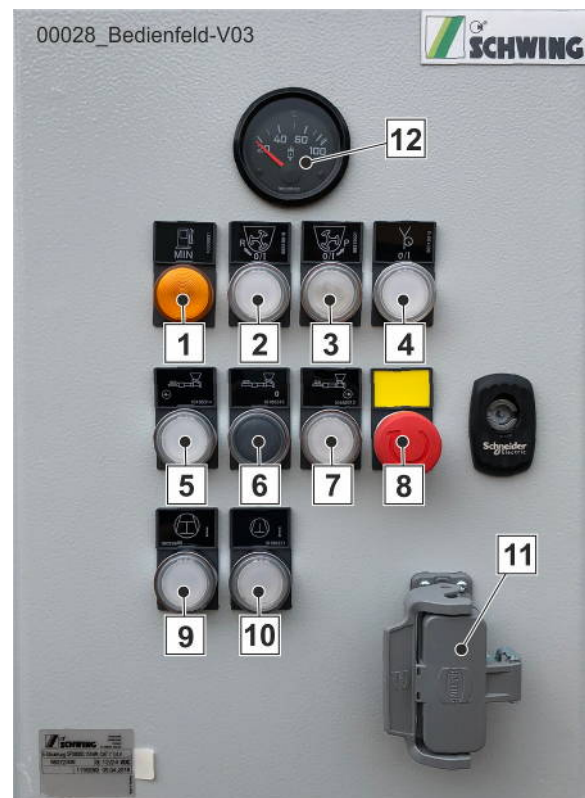

Fig. 4
In the event that the machine has to be operated during an emergency or test operation, a bypass plug has to be inserted into the power outlet (11) (Fig. 4).